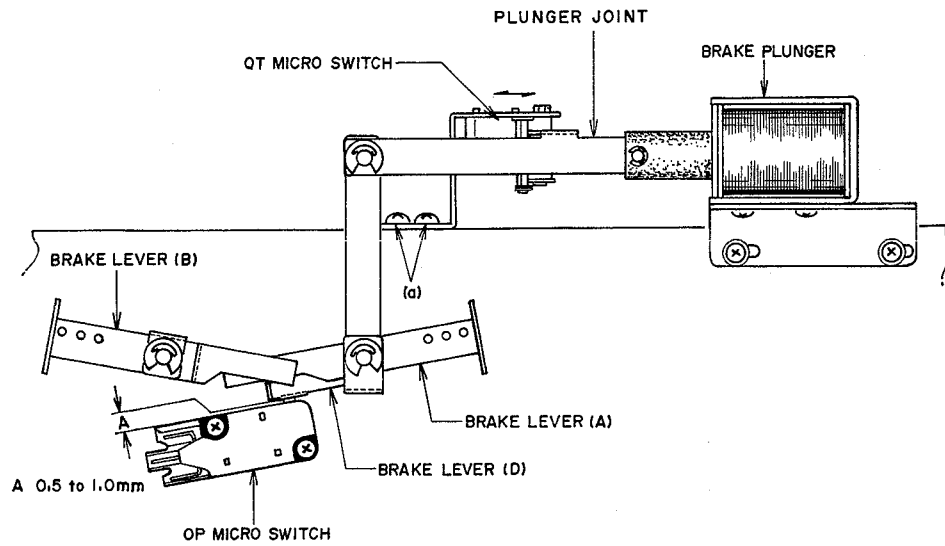

Fig. 16
7. QT MICRO SWITCH INSTALLATION POSITION ADJUSTMENT (Refer to Fig. 16)